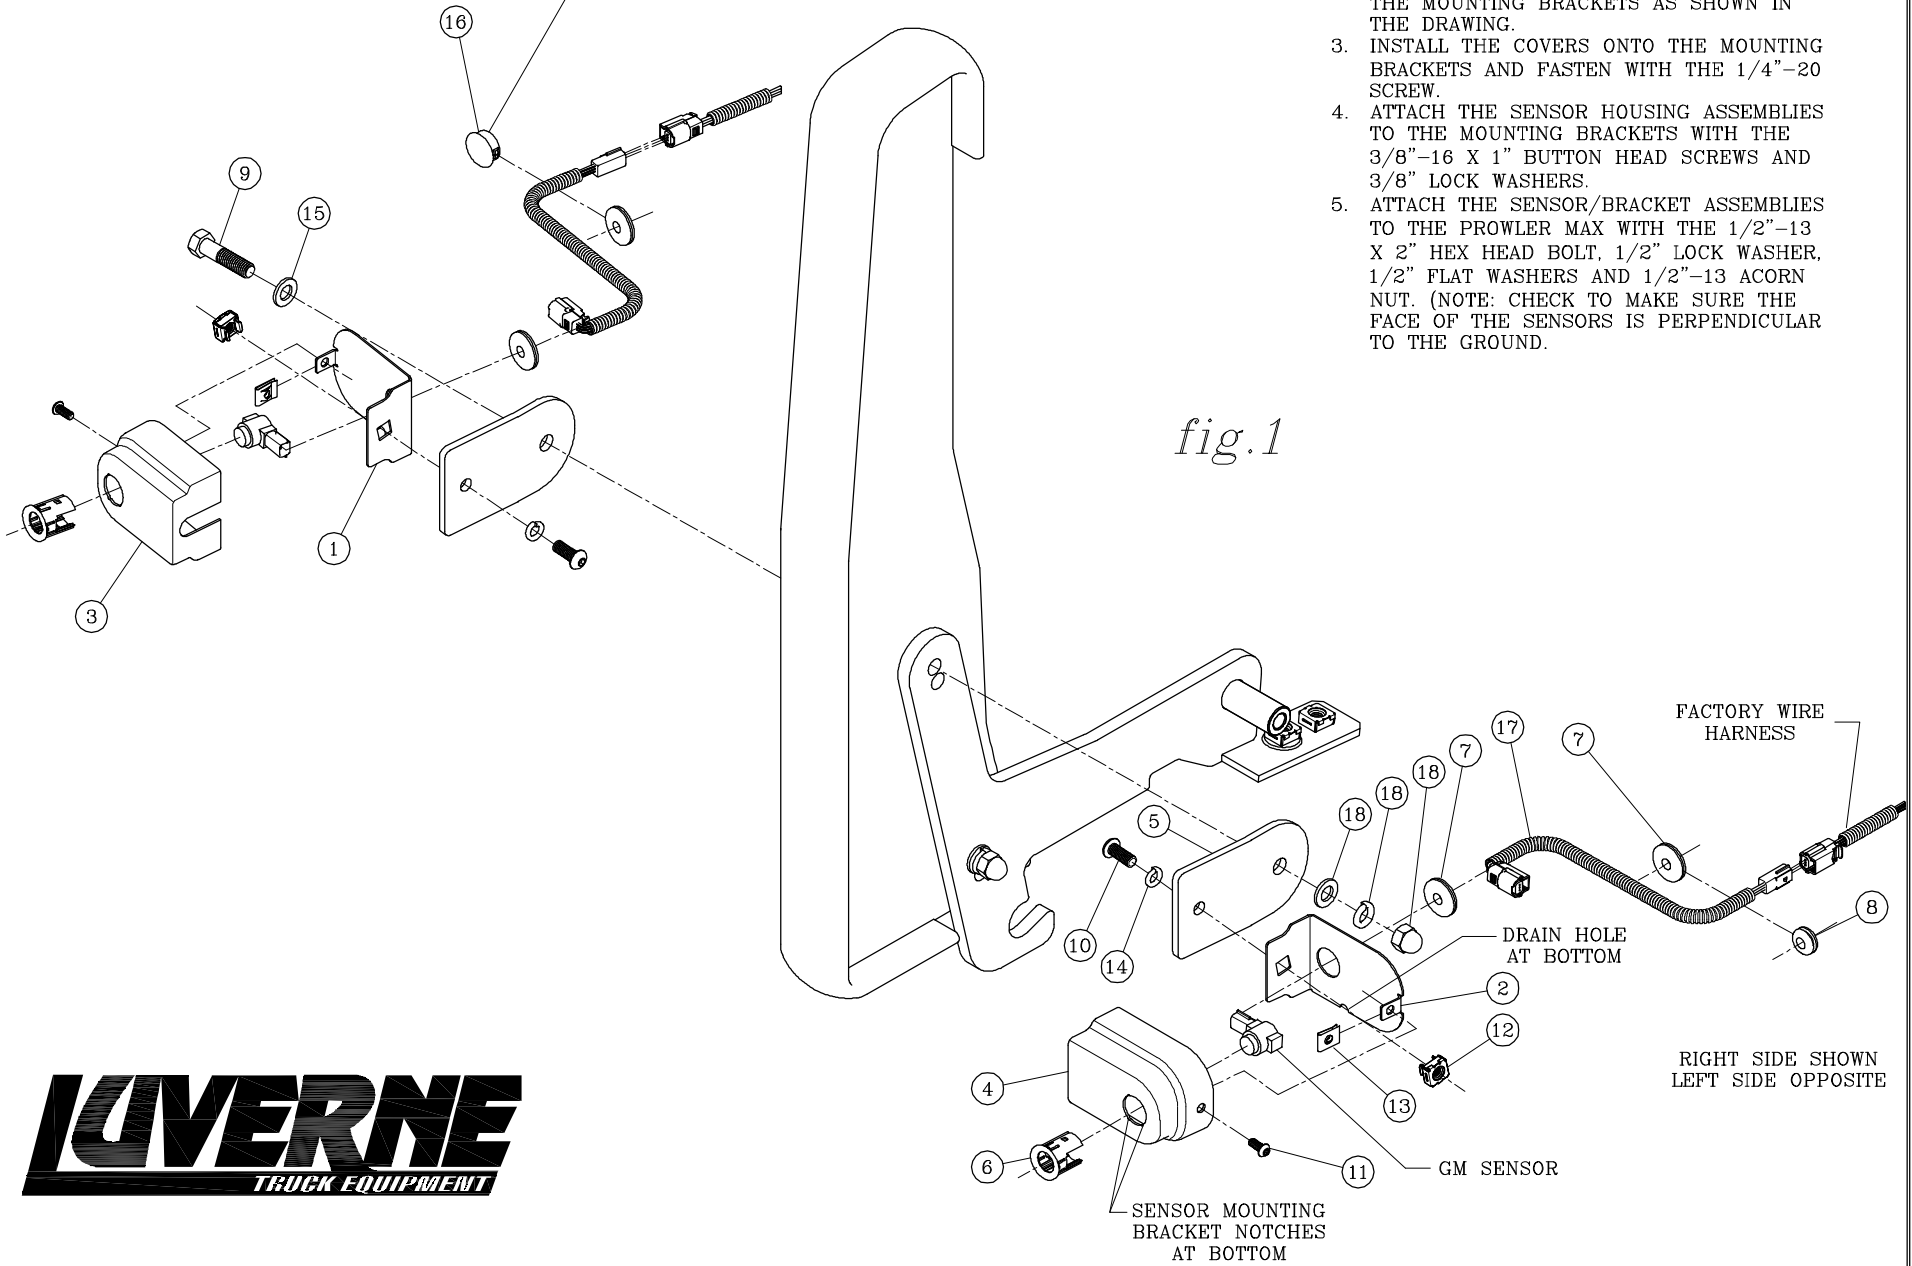

fig. 1
REFER TO *fig. 1* FOR SENSOR BRACKET ASSEMBLY INSTRUCTIONS 2-14
13. MOUNT THE SENSOR BRACKET ASSEMBLIES TO THE TOP HOLES IN THE UPRIGHT/MOUNTING BRACKETS AS SHOWN IN *fig. 1* SO THAT THE SENSOR BRACKETS (ITEMS #1 & #2) ARE TO THE INSIDE AND OUTSIDE OF THE UPRIGHTS AND STRAIGHT UP AND DOWN. TIGHTEN THE 1/2"-13 ACORN NUTS.